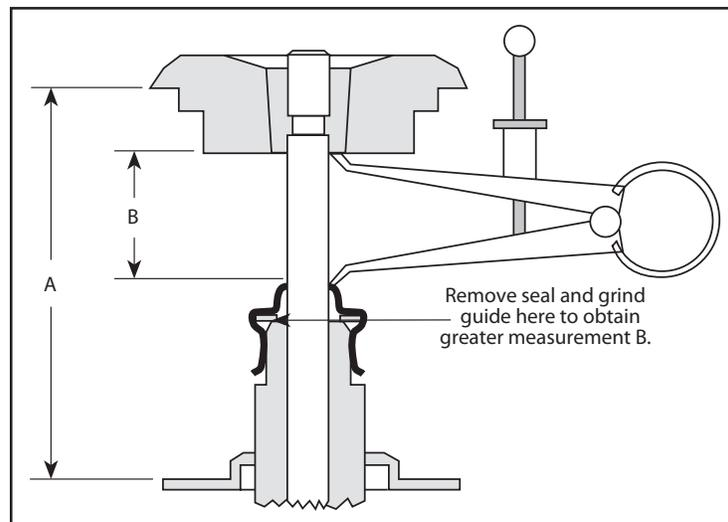

Figure 1
- B. Heads must be removed to check the installed spring height. This is the distance from the bottom of the top retainer to the top surface of the lower valve spring collar where the spring rests on the head (**Dimension A, Figure 1, below**). This distance is the height of the outer valve spring when the valve is on the seat (typically 1.490" to 1.520" for panheads and shovelheads and 1.800" for Evolutions). Install the valve in the guide. Then install the bottom collar, top retainer and keepers. Pull the top retainer tightly against the keepers. While holding the valve assembly steady, measure the distance between the lower valve spring seating surface and the outside step of the top retainer. Record your information.
- D. Before removing the retainers, measure the distance from the bottom of the retainer to the top of the valve guide or valve seal. (**Dimension B, Figure 1**). This distance must be .060" greater than the lift of the valve. If not, the guide must be shortened to obtain clearance. Insufficient clearance between top collar and valve seal is a very common cause of early camshaft fatigue and valve seal failure.